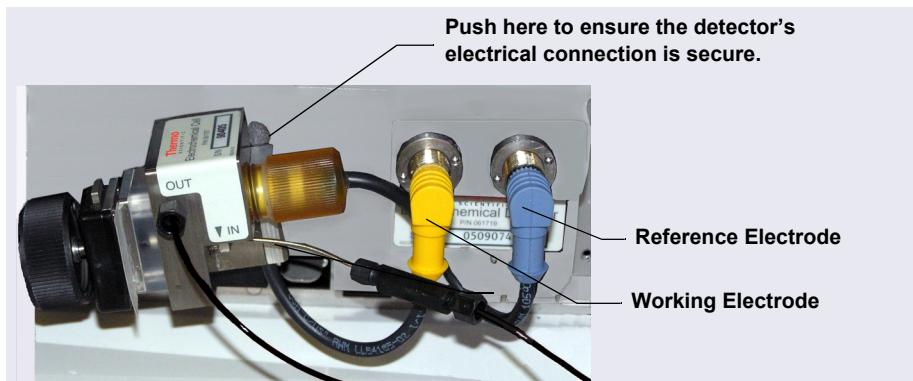

Figure 9-4. Electrochemical Detector Connection (Analytical Cell Shown)
1. Check the detector connections: Verify that the signal cable from the cell is connected to the appropriate connector on the detector block (see Figure 9-4). Also, push firmly on the detector to ensure that the
Check the cable connection: Verify that the signal cable from the working electrode is connected to the detector block (see Figure 9-4).
Verify that the signal cable from the reference electrode is connected to the detector block (see Figure 9-4).